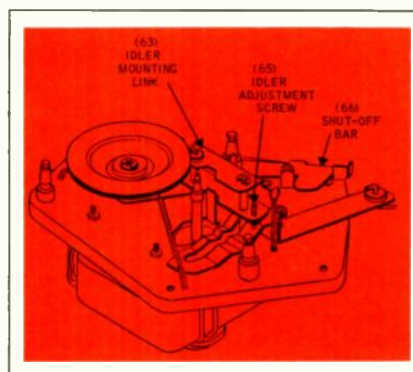

Fig. 4—Details of idler height adjustment in the same group of G-E record changers.
The second adjustment, idler height, is made by a screw (65) as shown in Fig. 4 on the idler mounting link (63). The turntable must be removed to gain access to this screw. Turn the screw clockwise to raise the idler wheel and counterclockwise to lower the wheel. Before reinstalling the turntable, engage the shut-off lever with shut-off bar (66) to prevent possible damage to the idler wheel. The idler wheel adjustment should always place the idler wheel contact surface in the center of the step on the step pulley.